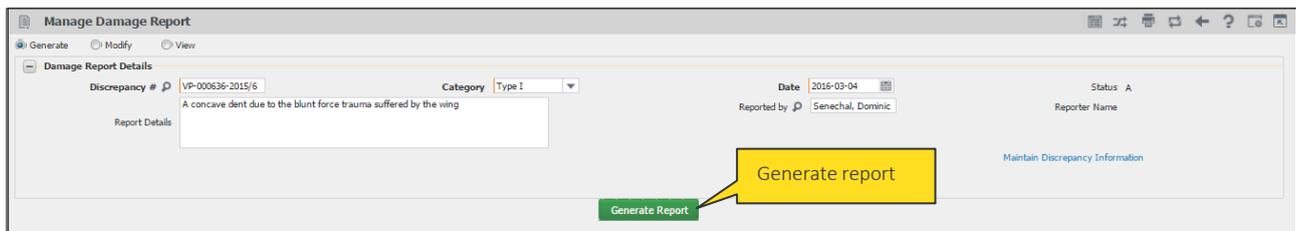

Figure 3.13 Mark a damage and create new damage report
1. Select the **Generate** radio button. See Figure 3.13.